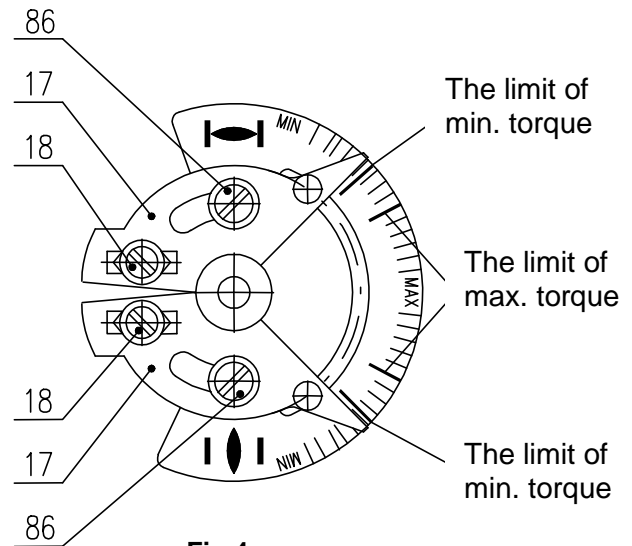
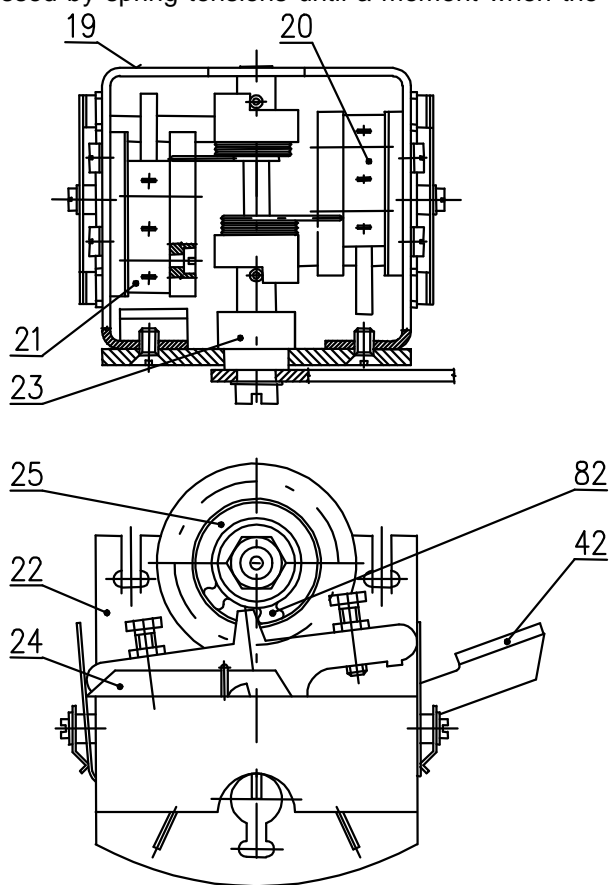

Fig.4
Fig.5
Check of torque switches (Fig.4,5). When the actuator moves towards "close" and at torque switches connection to "torque switching-off" should be contacts of switch S2 switched over by pressing of disconnecting bell (24)(Fig.5) of relevant switch. If the connection is properly performed, the actuator must stop. When the torque switches are connected for "signalization" only, signalization on control box panel will be activated.
- torque disk (**Fig. 4**)
- torque unit (**Fig. 5**) with locking mechanism (82) (**Fig. 5**)
Torque disk (Fig. 4) is assembled on torque shaft discharged from power transmission (**Fig.2**). Steer angle of torque disk is proportional to torque moment of output shaft of electric actuator. Its magnitude can be adjusted by segments (17) and by shifting of backstops (18) (**Fig. 4**). Achieved torque moment value is from torque disk transferred on torque unit by means of torque lever (42) (**Fig. 5**).
Torque unit (Fig.5) consists of a carrier, on which are displaced switches S1 (20) and S2 (21). On the shaft (23) are mounted disconnecting levers (24), keeping switches pressed by spring tensions until a moment when the shaft is turned out of the mesh of torque disconnection.
Locking mechanism (82) (Fig.5) provides locking of torque disconnection usually to 1 or 2 turns after reversing of electric actuator. After elapsing of adjusted revolution will torque unit acquire its original function.
Disconnecting torque can be adjusted only in connection with a device for torque measurement and only within relevant range, according to specification table, by rough regulation (17) and soft regulation (18), (**Fig.4**).
Adjustment of disconnecting torque by means of segments (17), (**Fig.4**), can be performed only within highlighted interval MIN – MAX on torque disk within relevant power range of electric actuator.